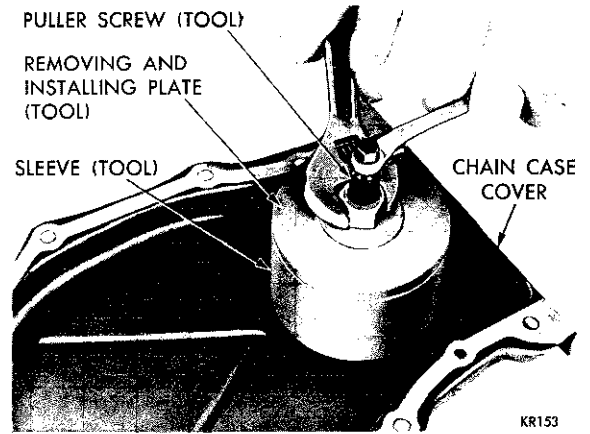

Fig. 23—Removing Oil Seal Using Tool C-3506
- (3) Place the sleeve over the retainer and place the removing and installing plate into the sleeve.
- (4) Place the flat washer and nut on the puller screw. Hold the center screw and tighten the puller nut to remove the seal (Fig. 23).